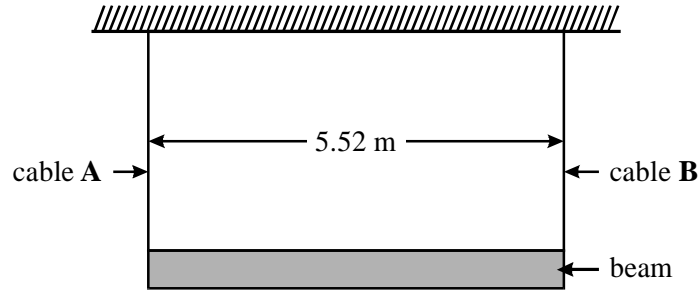

Figure 1
6. A uniform wooden beam of mass 35.0 kg and length 5.52 m is supported by two identical vertical steel cables **A** and **B** attached at either end, as shown in **Figure 1**.